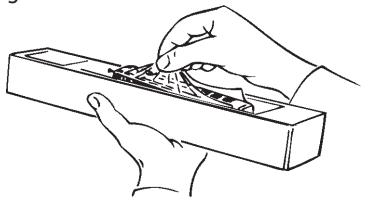

Fig. 2
**Fittings:** Operation is possible with different couplings (fig. 2). We recommend using the ROCO close coupling. In the enclosed accessory bag you will find small kits to be fitted on your locomotive. Please **mount them cautiously**.
**Attention!** Use glue only if indicated (fig. 2).